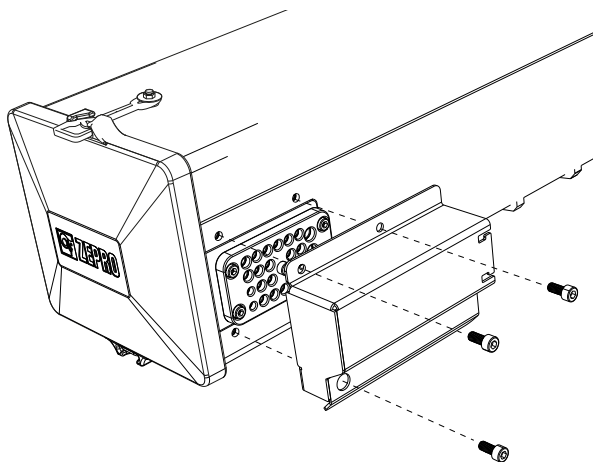

Figure 76. Fasten the cable grommet's protective cover with three screws
1. Disconnect the cable grommet's protective cover, which is secured with three screws; see Figure 76.
2. Install the cable grommet's protective cover with the three bolts provided, see Figure 76. Tightening torque: 8 Nm.